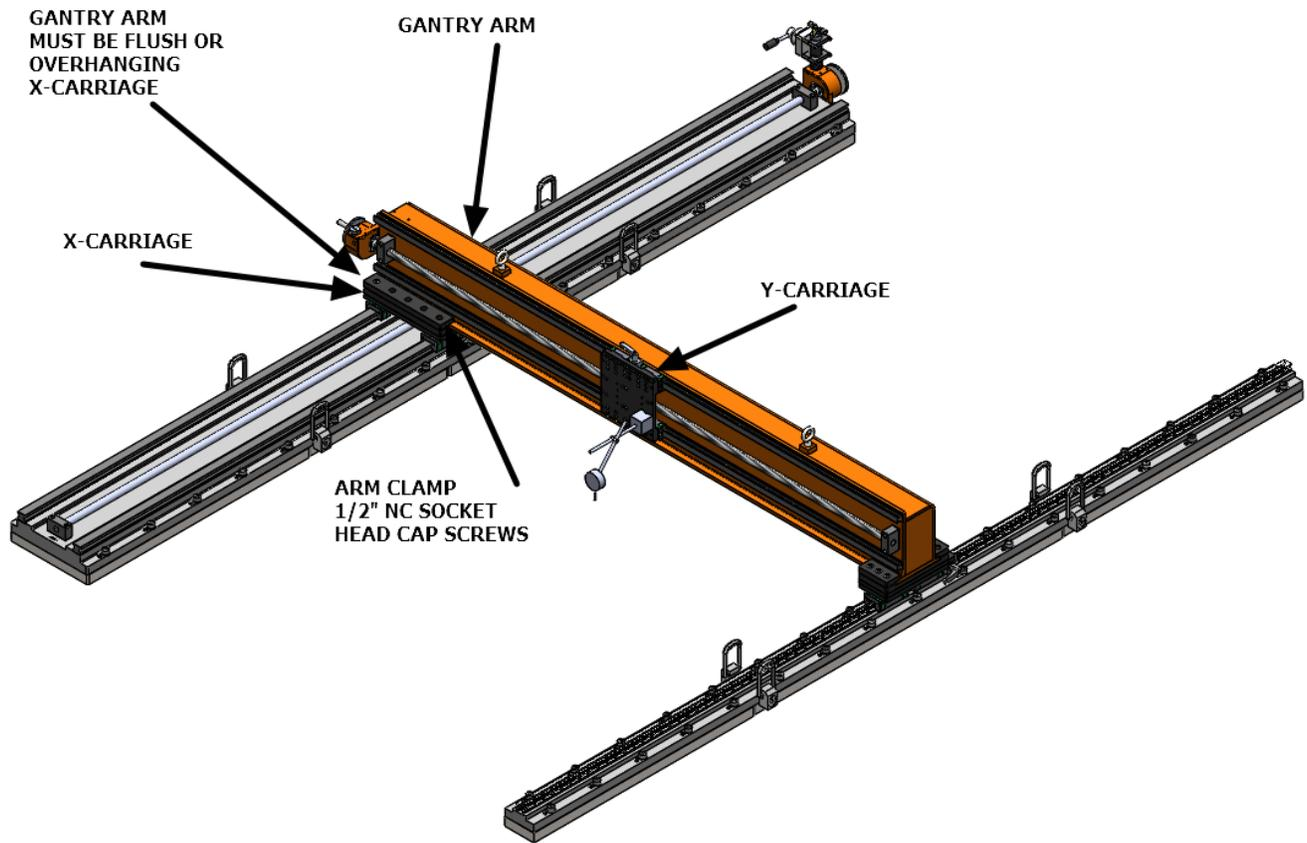

FIGURE 2
5. Remove GANTRY ARM-CLAMPS from X-CARRIAGE. Using the provided EYE-BOLTS, place GANTRY - ARM on X-CARRIAGE and reattach the ARM-CLAMPS, ensuring that the end of GANTRY - ARM is flush or not overhanging with the edge of X-CARRIAGE. Tighten the $\frac{1}{2}$ -13X1 SOCKET HEAD CAP SCREWS on both ARM-CLAMPS (Figure 2).
18. Place a DIAL-INDICATOR on the GANTRY-ARM (Figure 2) and level the machine by adjusting the JACKING SCREWS while running the DIAL-INDICATOR along both X and Y-axis.